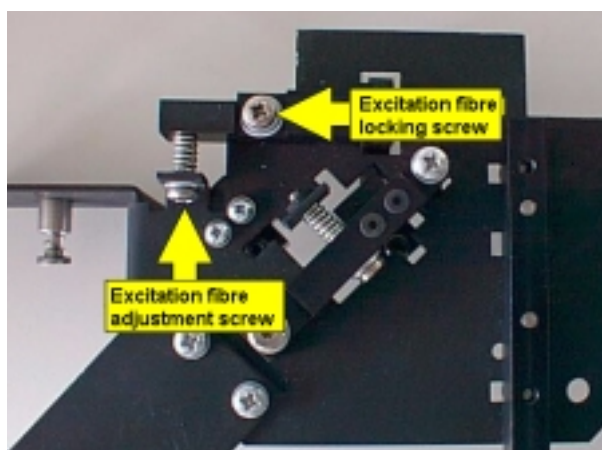
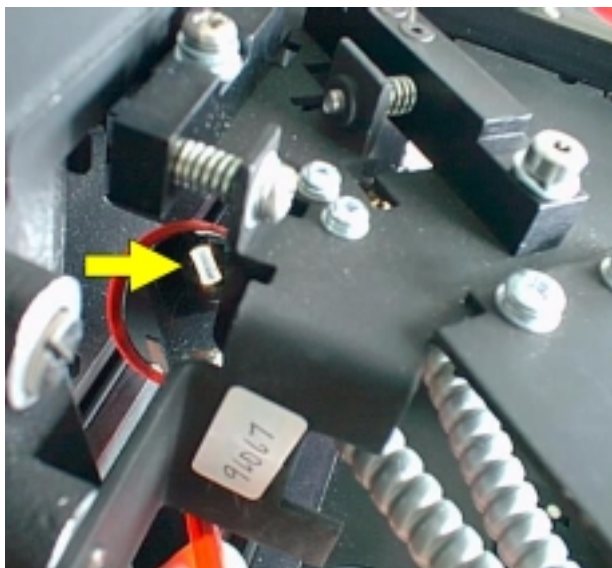

Figure 68 Excitation fibre screws
Figure 69 The end of the fibre bundle as seen in the dentist's mirror
11. Loosen the excitation fibre locking screw, as shown in Figure 68.
12. Rotate the mirror via the adjustment screw, as shown in Figure 68, until the light image is centralized on the fibre bundle, as shown in Figure 69.